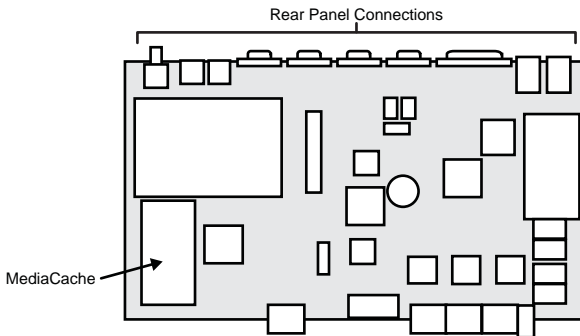

Figure 1 CPU Board — MediaCache Location
3. Locate the MediaCache on the Frame CPU Board (**Figure 1**).